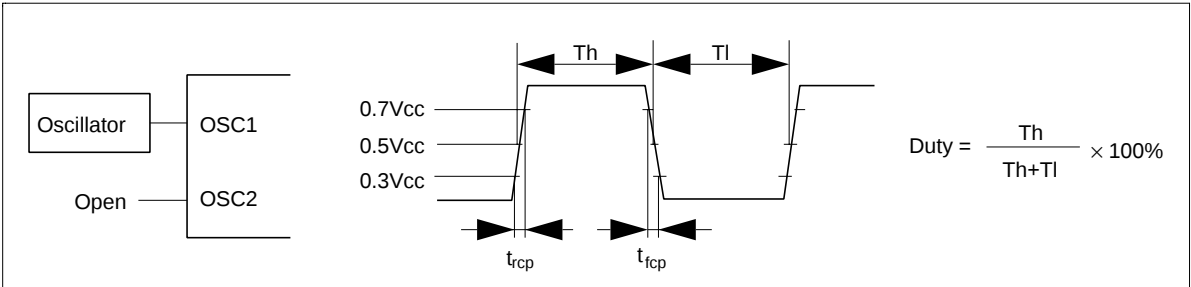

Figure 38 External Clock Supply
- 8. Applies to the external clock input (figure 38).